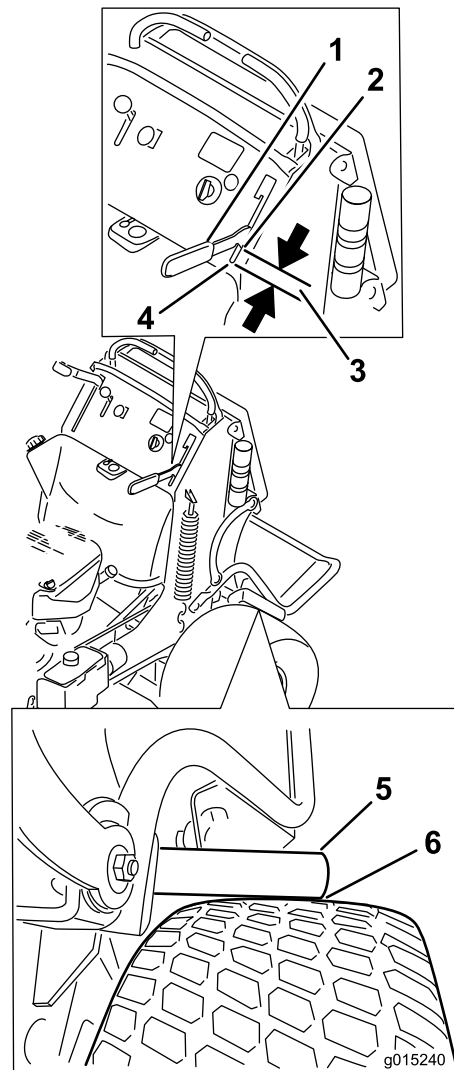

Figure 65
4. Engage the brake lever until the brake bars first contact the tire (Figure 65).
5. Measure the gap from the front of the hand lever to the end of the slot in the control panel when the brake bar contacts the tire (Figure 65).